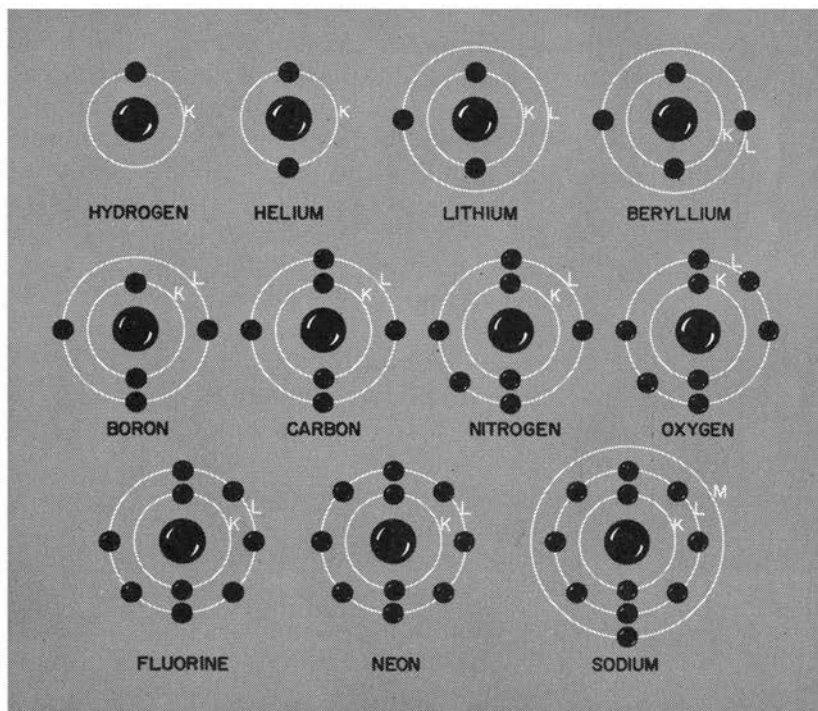

Fig. 106. One of the differences between atoms is the addition of electrons in the various rings. Hydrogen has one electron, helium has two, lithium three, etc.
There are far too many elements for us to describe each one in detail, but Fig. 106 gives some indication of what is happening. As you can see, one big difference between atoms is that each succeeding element has one more electron.
There is something even more important that Fig. 106 is trying to tell us. The electrons seem to want to arrange themselves into definite orbits. We call them shells, because they surround the nucleus or kernel. The first, or K, shell has 2 electrons. The next, or L, shell is filled when it has 8 electrons. The next shell (M) calls for 18 electrons and when we move along to the N shell it wants 32 electrons.
If a shell, or ring, of electrons is complete—that is, if the ring contains 2, 8, 18 or 32 electrons, don't even bother trying to talk them into leaving. These are the home bodies. We have a few of them in Fig. 106. Helium is one of this group. It has one ring (K) of 2 electrons, is a stand-patter, and that's that. The next one is neon with a total of 10 electrons. No chance of borrowing any electrons here, since the K ring is complete with 2 electrons and the L ring is filled with its quota of 8.